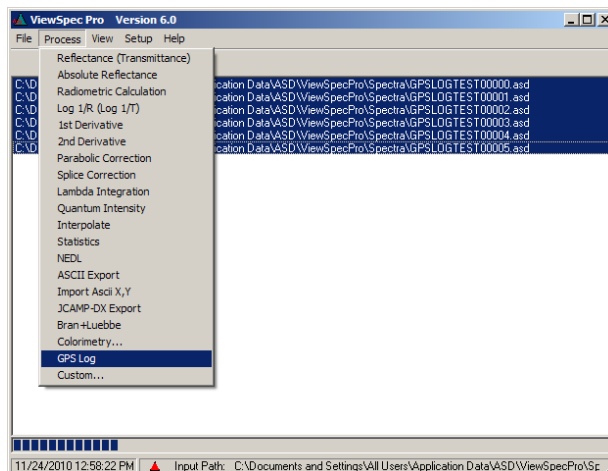

Figure 3-72: Create GPS Log
Step 2 Select all of the files [Shift+click] and click the *Process* pull-down menu. From here, select *GPS Log* (Figure 3-72).